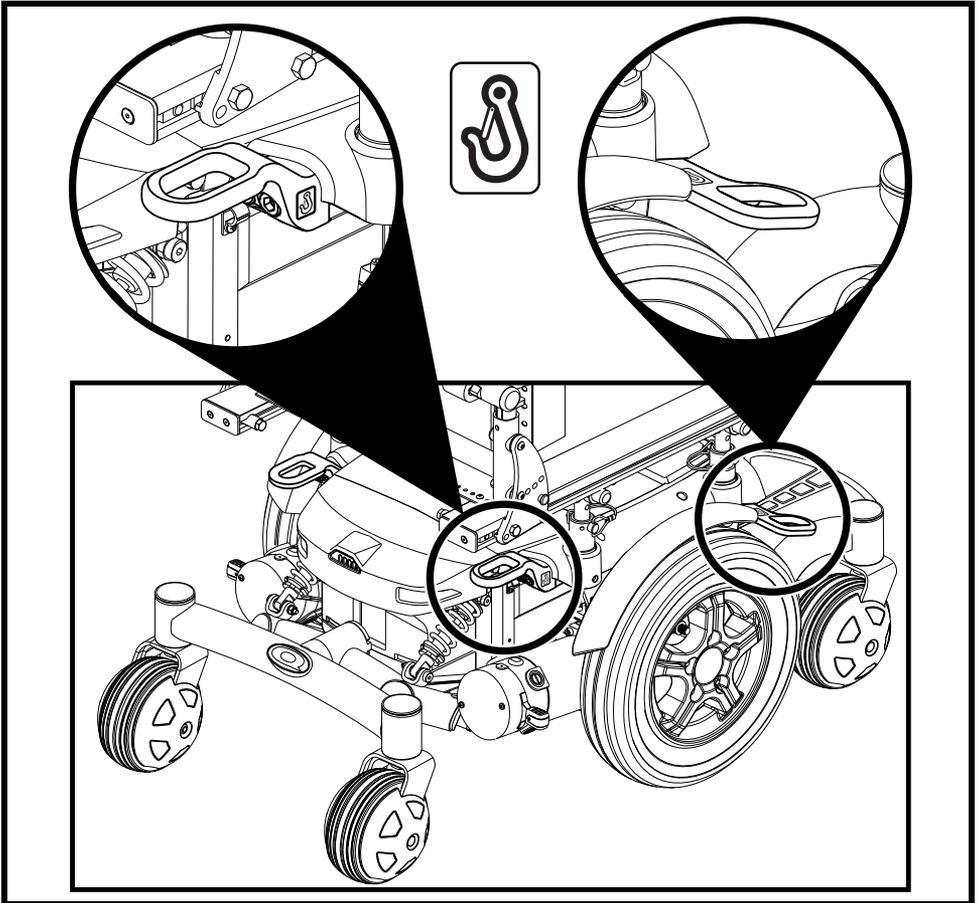

Figure 3. Securement Points on a Quantum 600Z
- Attach the four tie-down straps only to designated, labeled transit securement points indicated by anchor symbols on the power chair. See figure 3, 4, and 5. Tighten the straps to sufficiently remove all slack.
- The Pride Transit Securement System includes WTORS belt restraint anchor points in conformance with ANSI/RESNA WC/Vol. 4, Section 19/ISO 7176-19. See figures 3, 4, and 5.